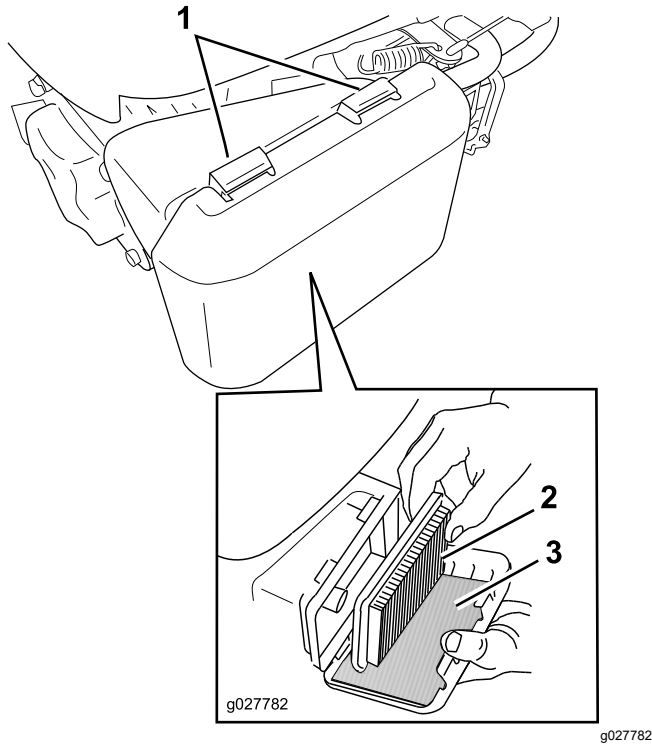

Figure 20
1. Press down on the latch tabs on top of the air-filter cover (Figure 20).
3. Remove the paper air filter and the foam pre-filter (Figure 20).